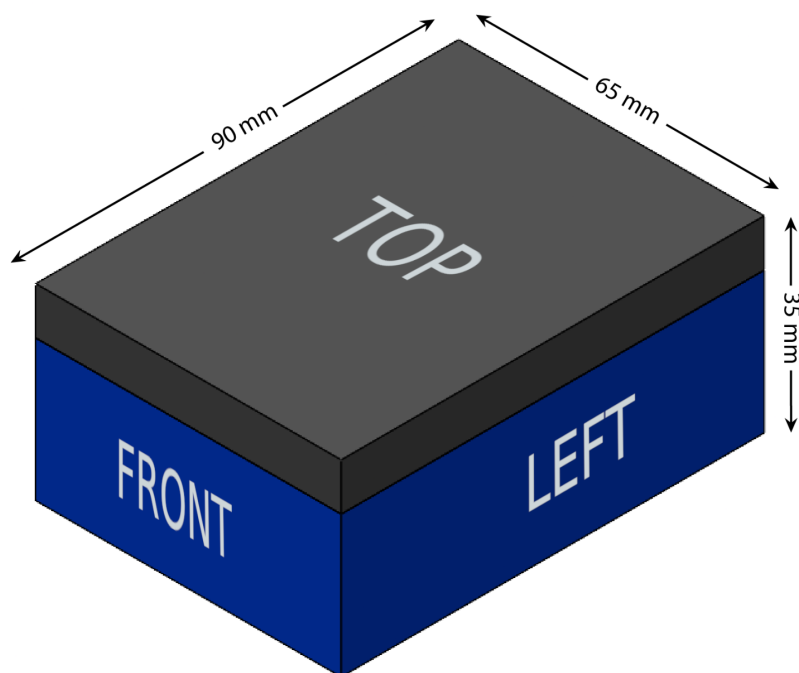

Figure 1 - Internal Payload
- The dimensions of the Internal payload (*figure 1*) are as follows.
NOTE: The internal payload must be placed inside the airplane in the given orientation only (figure 1). This will be strictly implemented.